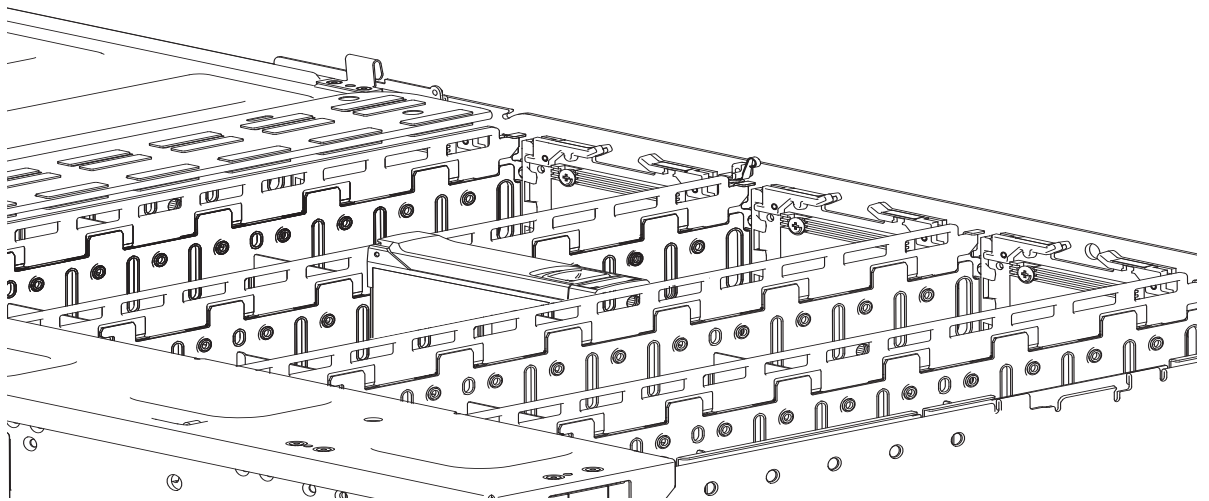

Figure 89 Installing a LFF drive carrier module
3. Insert the drive carrier module into the enclosure chassis, above the appropriate drive slot. Make sure that the drive is held vertically with the carrier latch positioned at the top, and the carrier hinge is toward the back of the enclosure as shown in Figure 89.